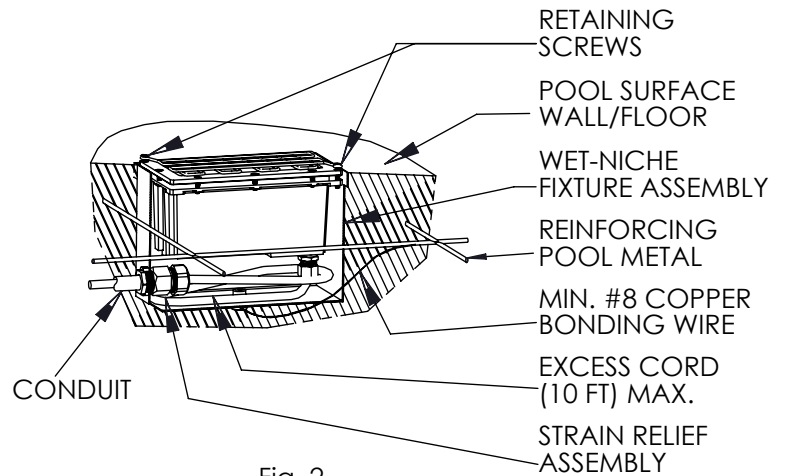

Fig. 2
2. Attach conduit to threaded hub provided at back of niche. Run separate ground wire (#8 AWG) from pressure type grounding lug furnished on the niche to reinforcing on structural metal of pool. (See fig. 2)
4. Coil excess cord around fixture housing and install fixture in niche. Make sure that fixture mounting lug of the lens ring interlocks with the lug of the niche mounting ring (See fig. 2). Insert tamper-proof stainless steel retaining screw in hole provided at top of lens ring. Tighten to 23 in./lbs. Screws 9-10.